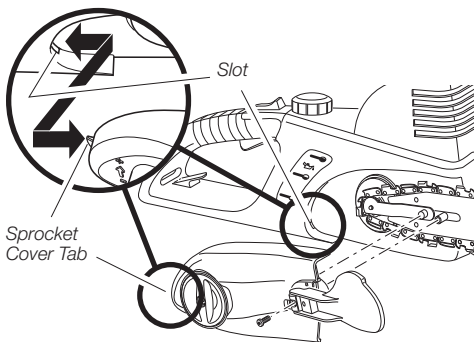

Figure 16 - Insert Sprocket Cover Tab into Slot
1. Insert tab on sprocket cover into slot on saw body (see Figure 16).